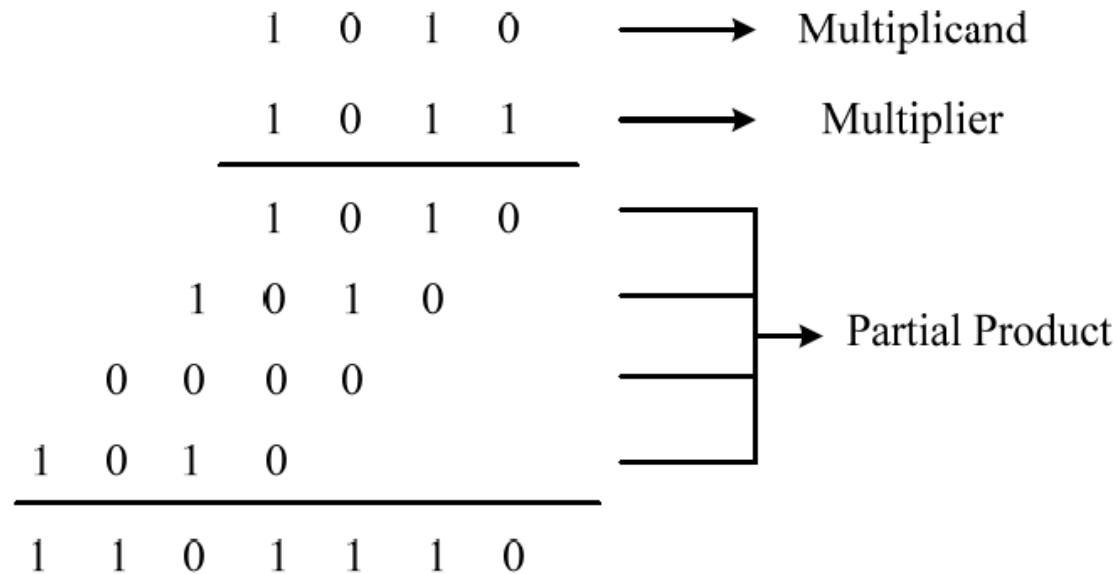

Figure 5-26 Multiplication
- *Figure 5-26 illustrates the multiplication procedure of two 4- bits binary numbers.*